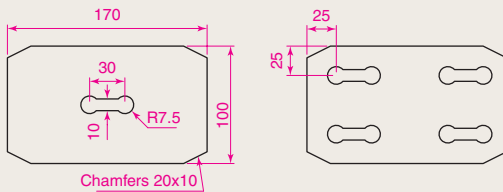

Fig. 5.52 Exercise 6
- Construct the left-hand drawing of Fig. 5.52. Then with **Move**, move the central outline to the top left-hand corner of the outer outline. Then with **Copy** make copies to the other corners.